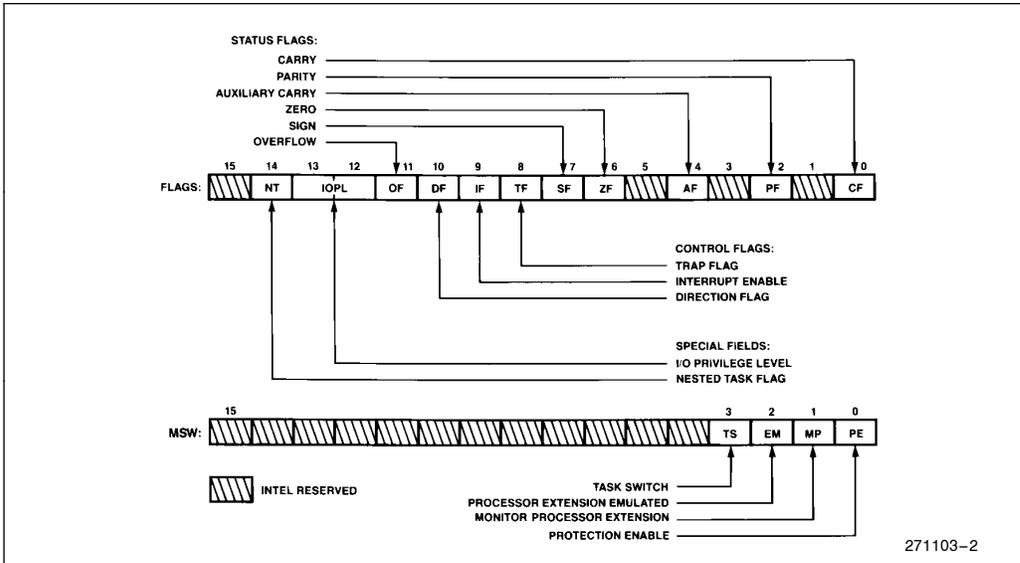

Figure 3. Status and Control Register Bit Functions
**Status and Control Registers:** The 3 16-bit special purpose registers in Figure 3 record or control certain aspects of the M80C286 processor state including the Instruction Pointer, which contains the offset address of the next sequential instruction to be executed.